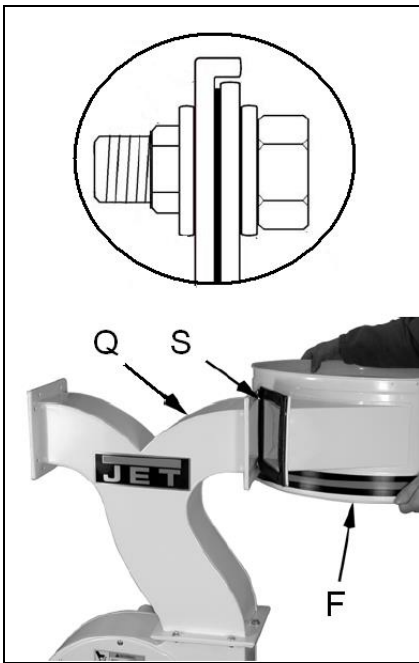

Fig 5
Place an upper gasket (S, Fig 5) and attach bag housing (F) with hex cap screws, washers and nuts.